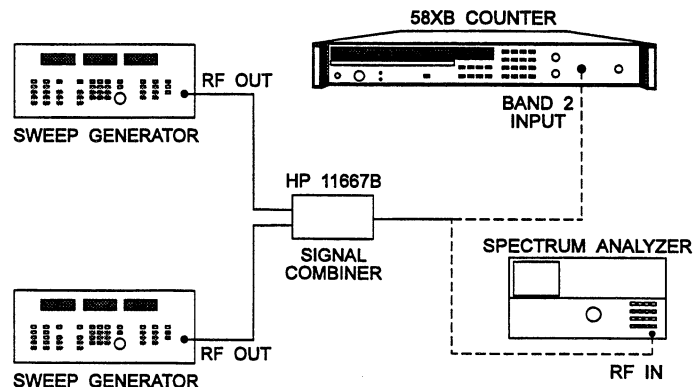

Figure 5-7. Band 2 Amplitude Discrimination Test Setup.
1. Connect equipment as shown in Figure 5-7.